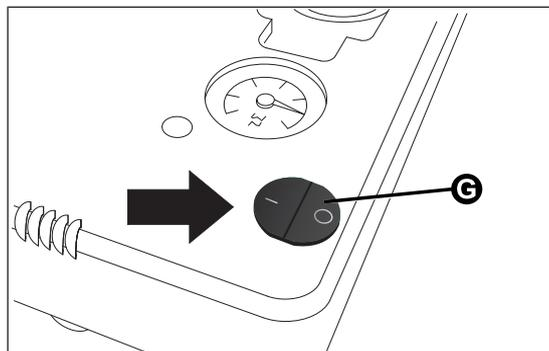

fig. 106
- make sure that the switch G fig. 106 is in position **0** (off), then start the engine;